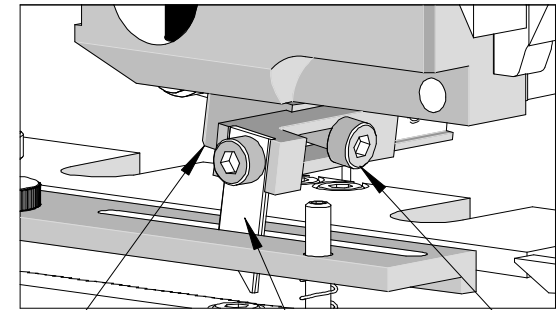

Figure 2-15
3. Using a 2.5mm hex wrench, loosen the M3 SHCS located on the feed finger mount. While holding the feed finger lever down slightly, slide the feed finger to the desired position. See Figure 2-15.